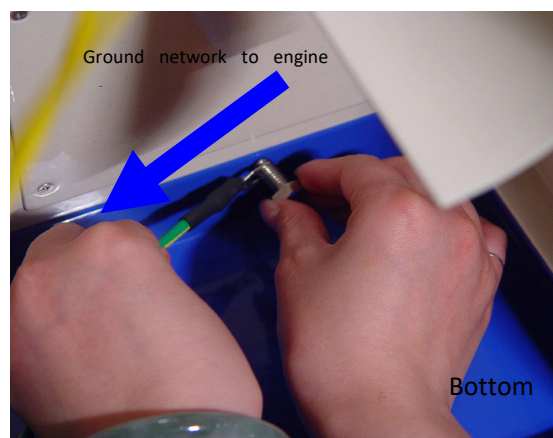

Figure 2-16 Wire to the earth
2.5.1 Protective earthing of cabinet is led from the earthing nut in the bottom or top of the cabinet to copper bar in the ground, in which, cross-sectional area of grounding line is not less than 35mm^2 , see Figure 2-16